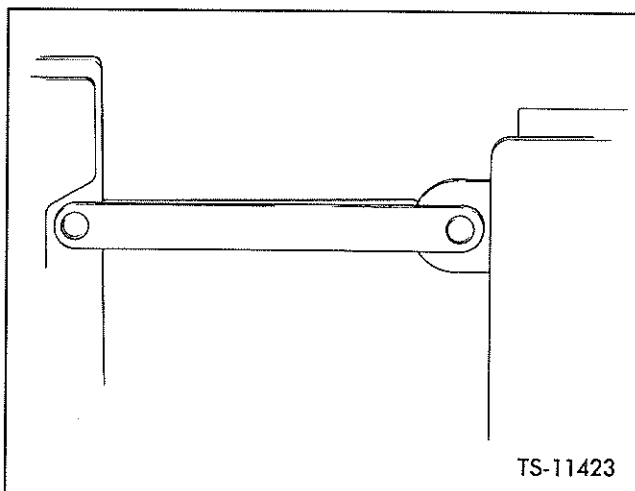

Fig. 38. Check Safety Links
**Note:** Repair or replace safety links that do not connect properly or have been damaged. See Figure 38.